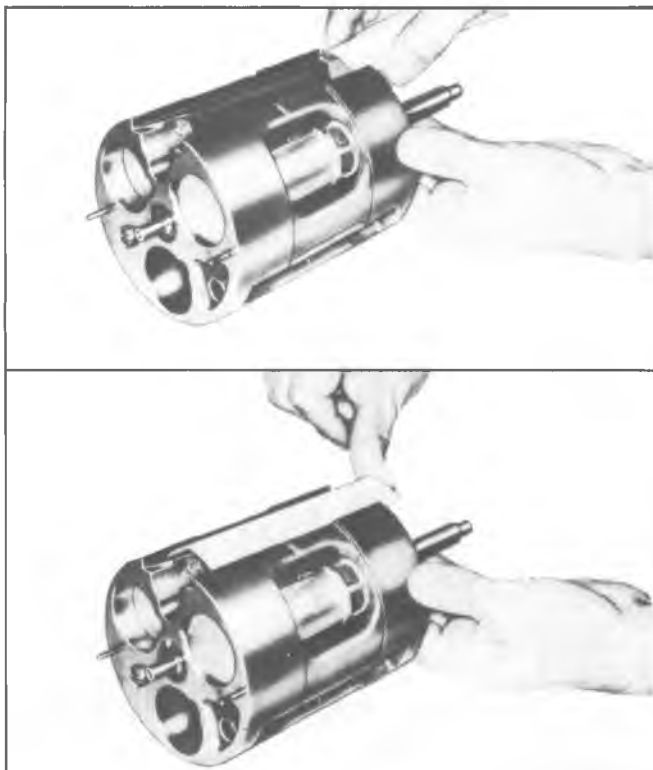

Fig. 56--Installing Suction Cross-over Cover
10. Replace the suction cross-over cover (Fig. 56). Compress the cover as shown to start it into the slot, and then press or carefully tap it in until flush on both ends.